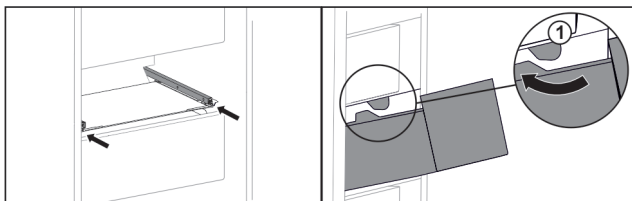

Fig. 101
- Guide drawer around the stoppers Fig. 101 (1).